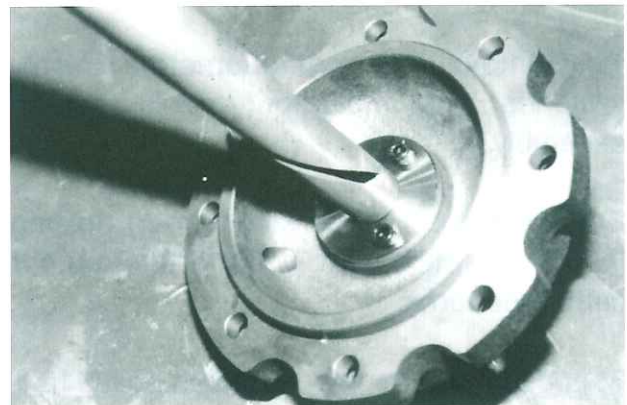

Fig. 42 Unloader Cover with Indicator Cam
- 2) Pull the cover off in line with the cam shaft center. The indicator cylinder cam is mated with the unloader push rod (67-1, 67-2) as shown in Fig. 42.